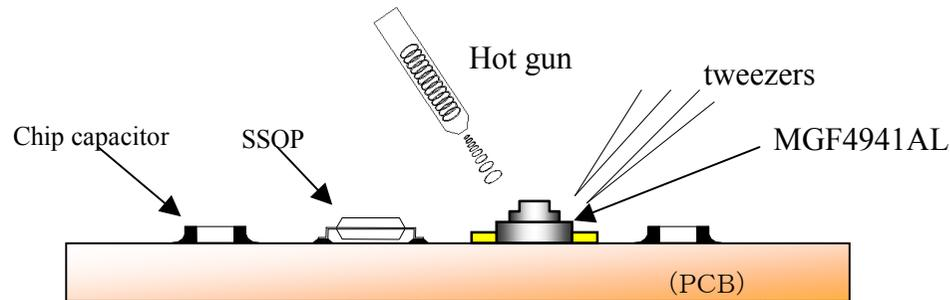

Fig.6 : Hot gun nozzle
2. Prepare spot heater such as hot gun with slim front edge nozzle shown as Fig.6 (narrower is better) and find the condition (temperature, air volume, air angle, and so on) to keep the temperature of package surface **under 380 degC**. (max. 450 degC)